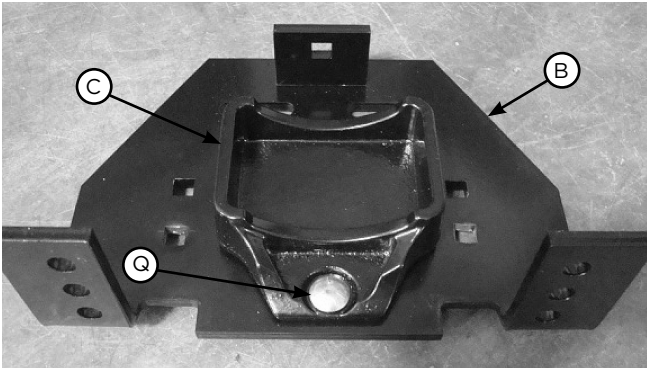
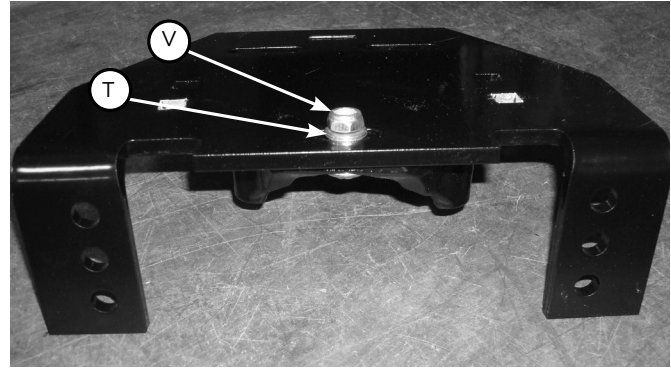

Fig. 9
Fig. 10
4. Install the lower bracket cup (C) onto the lower bracket main plate (B) using a 5/16"-18 x 3/4" carriage bolt (Q) (Fig. 9). Cap with an M8 flat washer (T) and 5/16"-18 nylon lock nut (V) (Fig. 10). Tighten finger-tight only; leave loose enough for the bracket to move freely in the slot.